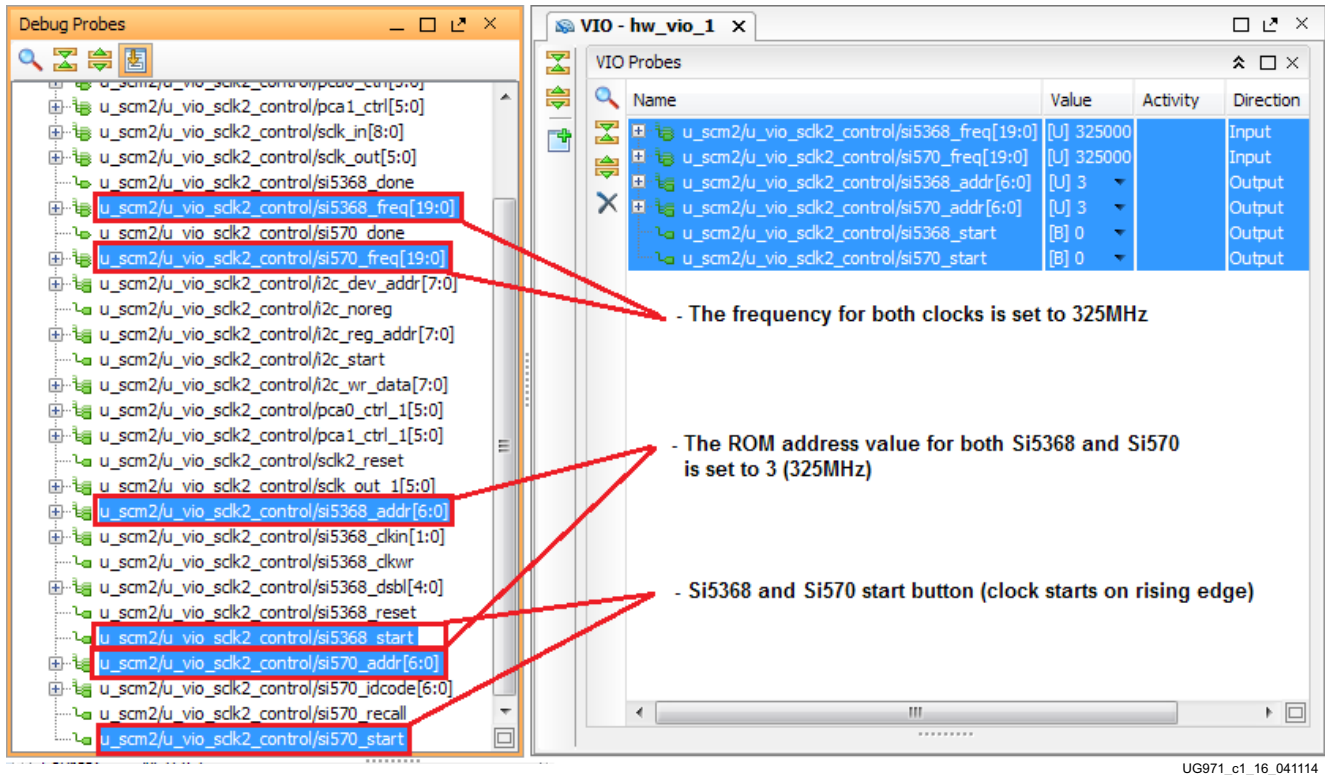

Figure 1-16: SuperClock-2 Module VIO Core
- To view the SuperClock-2 settings in the VIO core, select the probe signal from the Debug Probes window and drag it to the VIO-hw_vio_1 window. For example, the frequencies, ROM addresses, and start signals are selected (Figure 1-16).